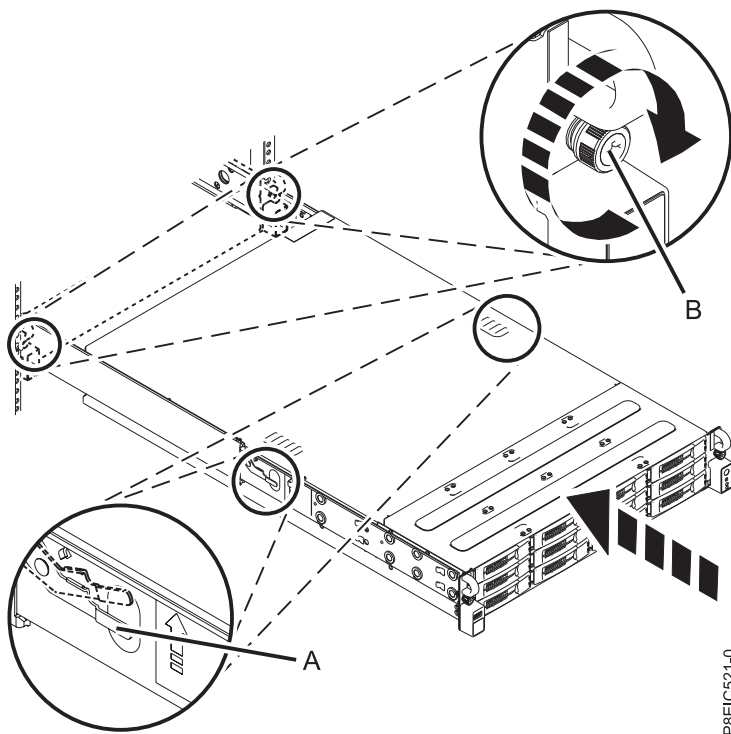

Figure 49. Placing the system into the operating position
5. Release the rail safety latches (A) by lifting them upward, as shown in Figure 49, then push the system fully into the rack.